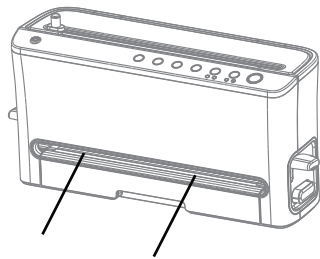

FIG. 3
- 3 Insert the opening of the bag into the vacuum chamber evenly. **FIG. 3**